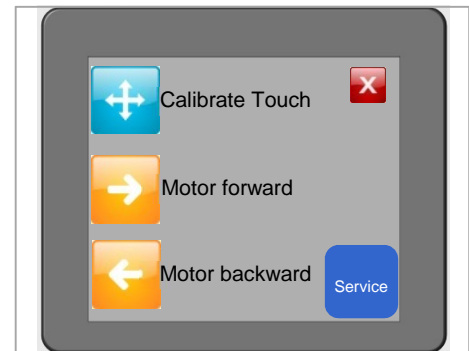
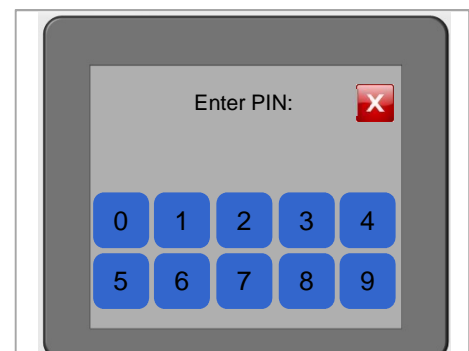

Fig. 7.12
Fig. 7.13
Touching the icon  to enter the set-up menu (Fig. 7.12).
- + Touch icon  to move the machine forwards stepwise/slowly (Fig. 7.12).
- + Touch icon  to move the machine backwards stepwise/slowly (Fig. 7.12).
The service button  (Fig. 7.12) is only accessible for the manufacturer of the electric Crimping Machine AT-300 and protected by a PIN (Fig. 7.13). This menu comprises settings, which are only destined for the assembly and adjustment of the motor control.